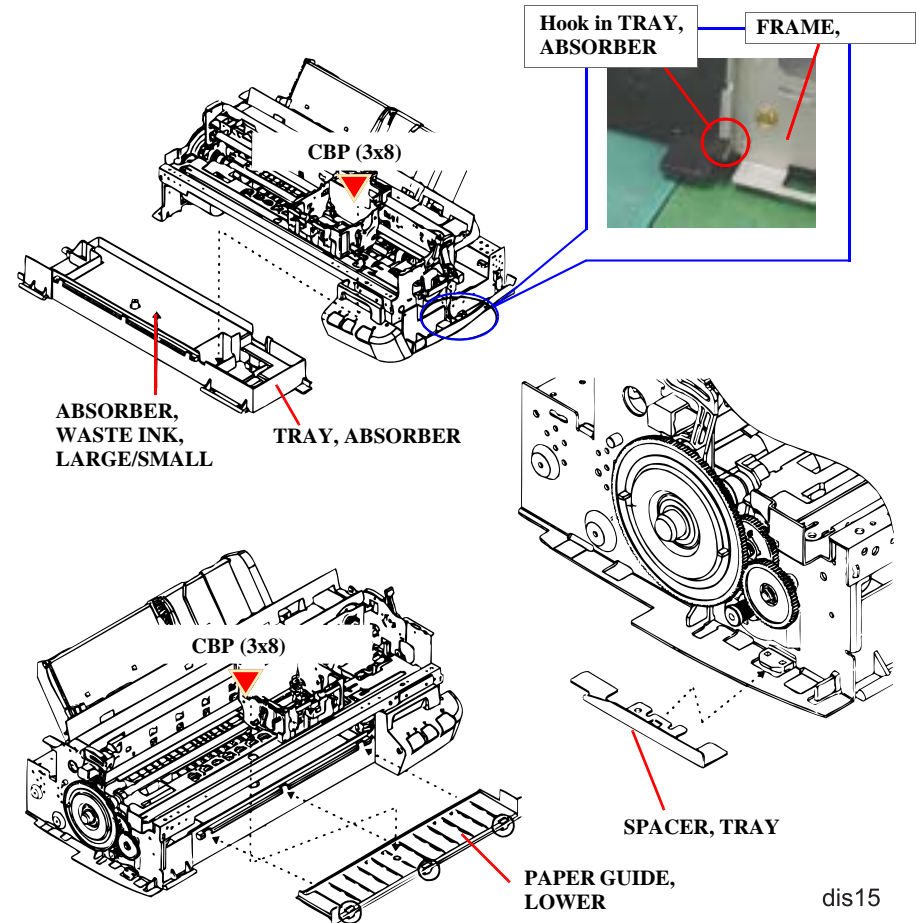

Figure 4-12. TRAY, ABSORBER ASSEMBLY Removal
- When installing TRAY, ABSORBER ASSEMBLY to the printer mechanism, make sure they are securely jointed with SPACER, TRAY. Refer to Figure 4-12.